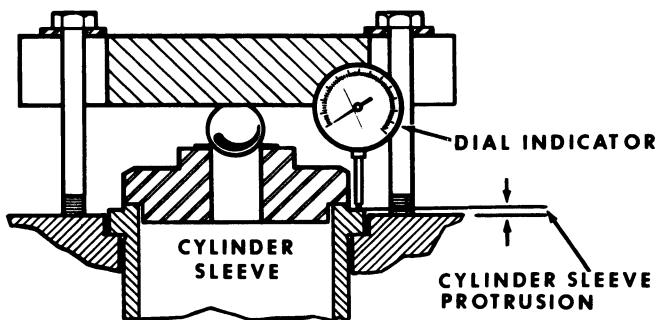

Figure K-3
4. Either a magnetic base dial indicator or a depth micrometer can now be used to determine the cylinder sleeve protrusion as indicated in Figure K-3. Refer to chart, Figure K-5, to make sure the correct fire ring is used.